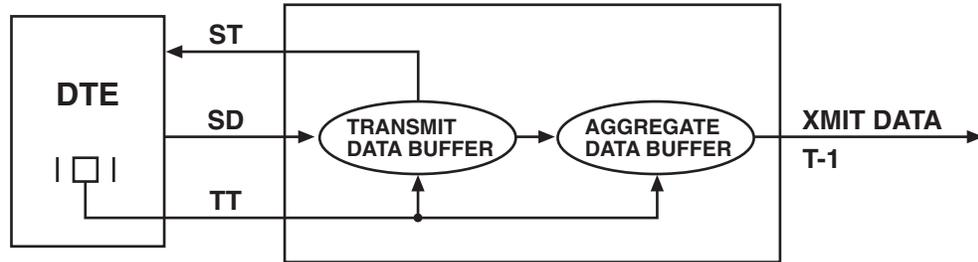

Figure 4-4. External Channel Timing Diagram.
External Channel Timing—Data is transmitted (clocked) to the network with a signal provided by the DTE. The DTE passes this clock signal to the T1 CSU/DSU Card via Terminal Timing (TT). Timing for the data transmission from the DTE to the T1 CSU/DSU Card is also clocked using this same signal. DTE Channel Timing must be configured for Loop 1 if this timing mode is selected. See Figure 4-4.